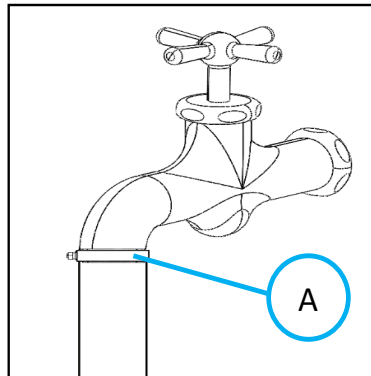

FIGURE 2-14
2. Attach the hose inlet to a tap by pushing its rubber end onto the tap and tightening the hose clip (**A**) (Fig.2-14).